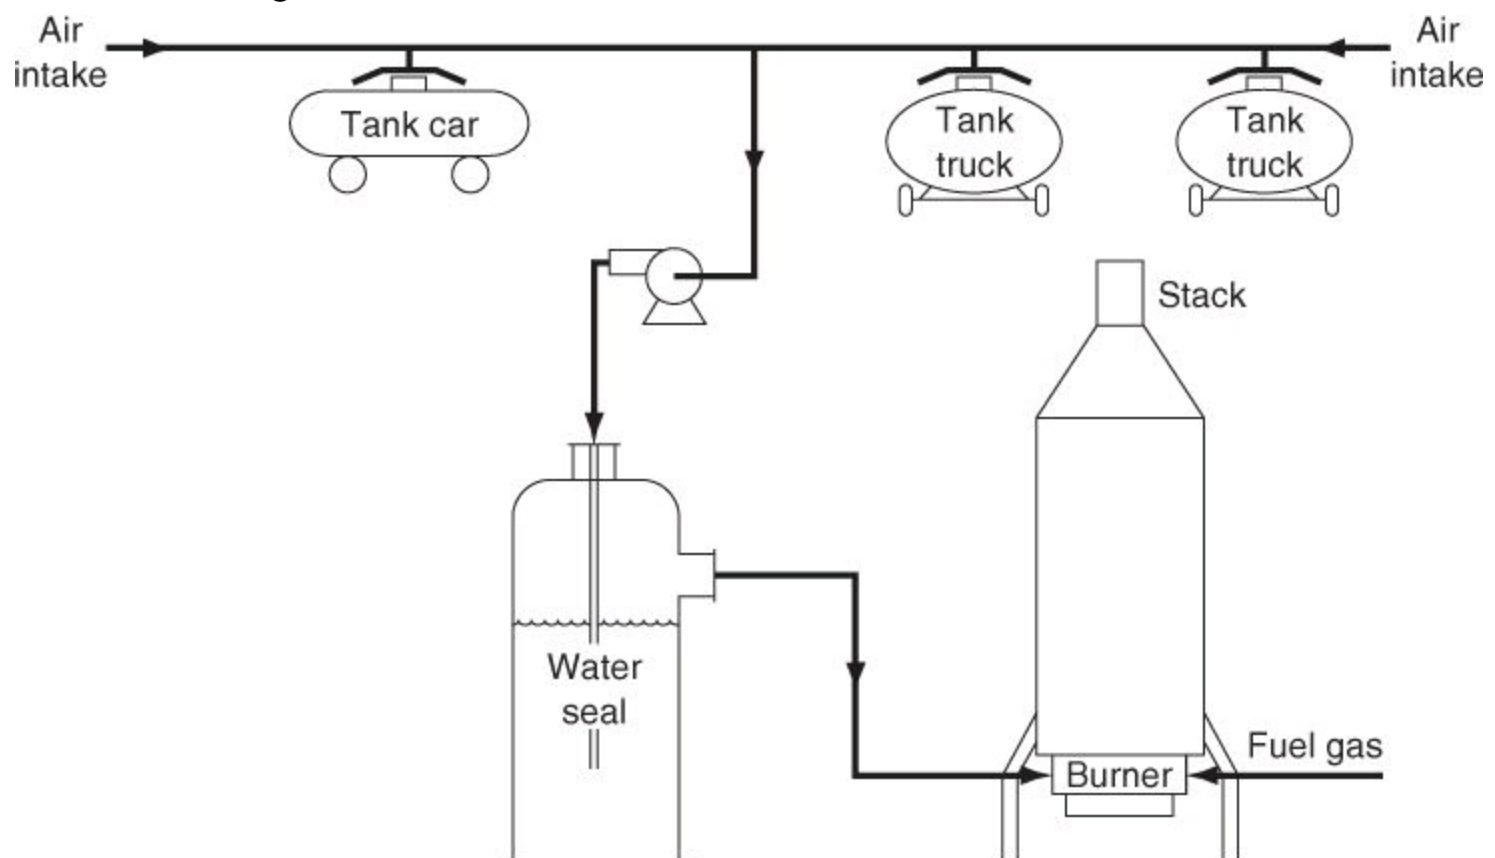

Figure P8.4.16
*****8.4.16. Figure P8.4.16** shows a typical *n*-butane loading facility. To prevent explosions either (a) additional butane must be added to the intake lines (a case not shown) to raise the concentration of butane above the upper explosive limit (UEL) of 8.5% butane in air, or (b) air must be added (as shown in the figure) to keep the butane concentration below the lower explosive limit (LEL) of 1.9%. The *n*-butane gas leaving the water seal is at a concentration of 1.5%, and the exit gas is saturated with water (at 20°C). The pressure of the gas leaving the water seal is 120.0 kPa . How many cubic meters of air per minute at 20.0°C and 100.0 kPa must be drawn through the system by the burner if the joint leakage from a single tank car and two trucks is $300 \text{ cm}^3/\text{min}$ at 20.0°C and 100.0 kPa ?